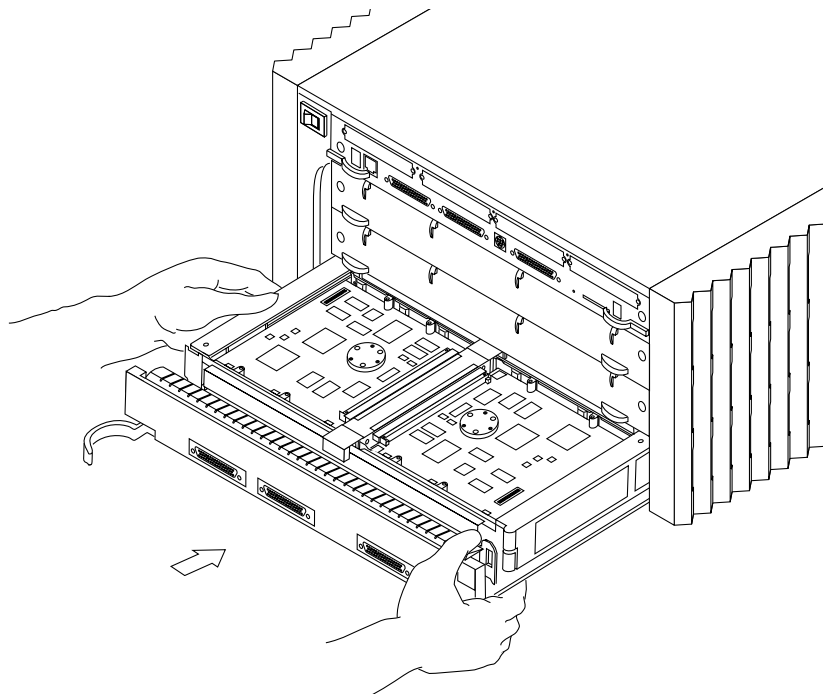

Figure 2-4 Inserting the 2.1-Gbyte Disk Card into the SPARCserver 1000 System
- 5. Hold the board with the component side up, as shown in Figure 2-4.**
Note – The component side of the board must face up. Be careful, the 2.1-Gbyte disk card is heavy. Note the hand locations for safely installing the 2.1-Gbyte disk card. Refer to Figure 2-4.